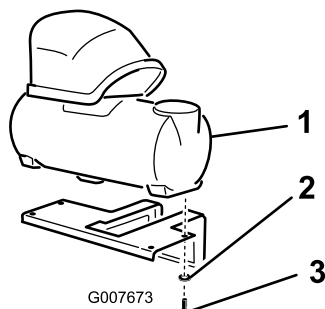

Figure 3
1. Place the foam tank assembly on the mounting bracket as shown (Figure 3).